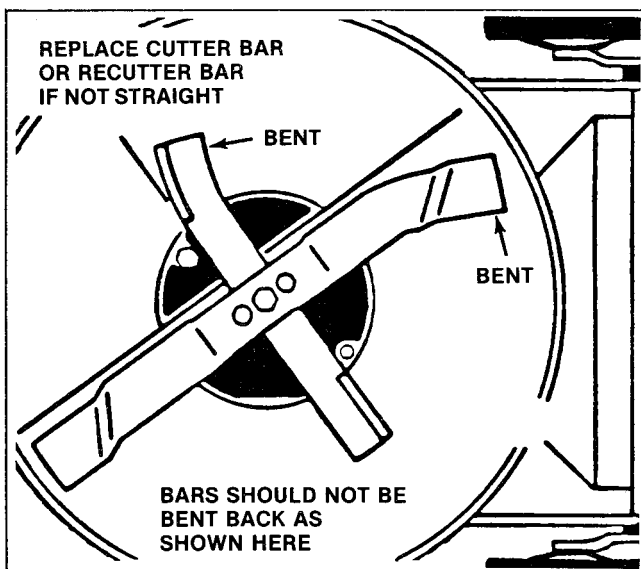

FIGURE 12
1. Both bars — cutter bar and recutter bar — must be straight (See Figure 12.) Any impact severe enough to bend a bar has also caused microscopic cracks in the bar steel. Bent bars should be replaced because the cracked portions could break off, becoming projectiles capable of inflicting serious injuries.